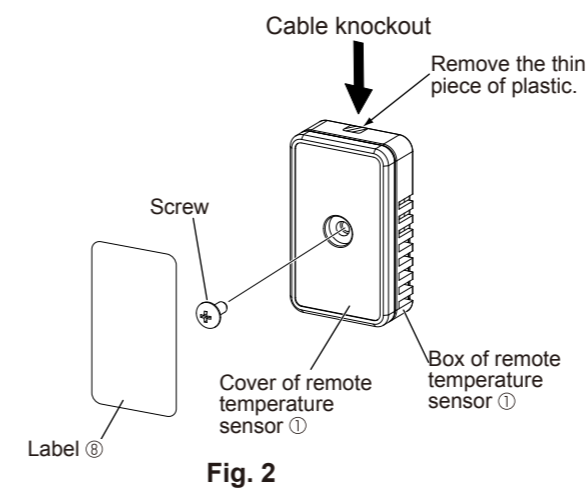
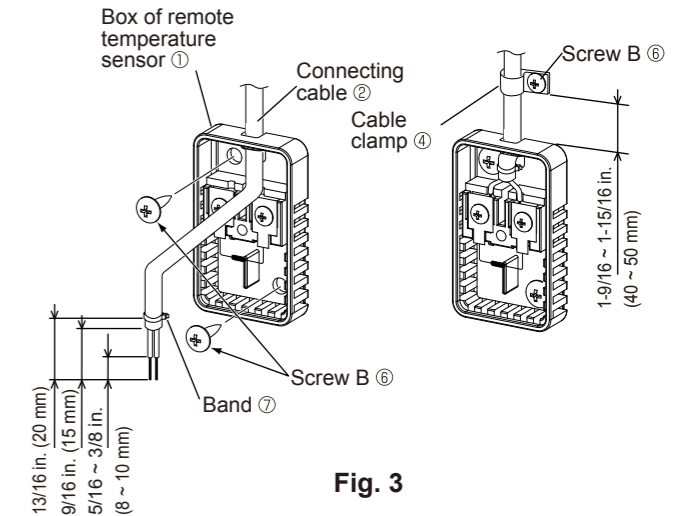

Fig. 2
Fig. 3
- Be sure to wire the remote temperature sensor ① to the indoor unit first. Before performing the following procedures, make sure that the connecting cable ② reaches where the remote temperature sensor ① will be installed. (The connecting cable ② is 16 ft. (5 m) in length. If it is too long, cut it to the appropriate length.)
- Remove the screws of the cover of the remote temperature sensor ①, and remove the cover. (Fig. 2)
- Place the remote temperature sensor ① with the cable knockout facing upward. Using a knife or a similar tool, remove the cable knockout. Pass the connecting cable ② through the knockout hole.
- Strip the end of the connecting cable ② as indicated in Fig. 3. Attach the band ⑦ securely to the connecting cable ② at a distance of 13/16 inches from its end. Cut off the excess band end.
- Connect the cable cores to the terminal block of the remote temperature sensor ①. (They do not have polarity.)
- Secure the remote temperature sensor ① to the wall with 2 screws B ⑥. (Fig. 3)
- Secure the connecting cable ② to the wall above the box of the remote temperature sensor ① using the cable clamp ④ and the screw B ⑥. (Fig. 3)
- Screw the cover to the box of the remote temperature sensor ①. Attach the label ⑧ on the cover. (Fig. 2)